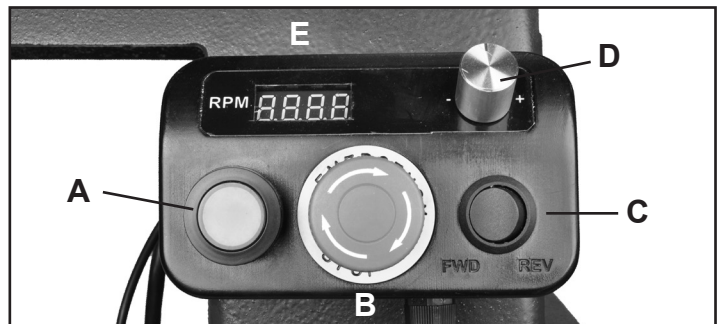

FIG. 6
The lathe features a corded Switch Box (FIG. 6) with magnets on its back that allow it to be positioned on the face of the headstock or anywhere along the lathe's bed! Wherever it is most comfortable for the turner to quickly access the controls to regulate turning speeds, direction of spindle rotation or to stop the lathe.
1. **'ON' BUTTON:** (FIG. 6, A) Push the green Button so that it turns the lathe ON. Push the red 'mushroom' Button (B) to turn the lathe OFF.
2. **'STOP' BUTTON:** (B) Push in the extended red Button to stop the lathe. To restart the lathe, rotate the OFF button clockwise and it will pop out to reset itself. Then press the 'ON' button to restart the lathe.
3. **FORWARD / REVERSE SWITCH:** (FIG. 6, C) This selector switch will change the direction that the spindle turns - counter-clockwise (forward) or clockwise (reverse).
4. **SPEED RPM KNOB:** (FIG. 6, D) This knob controls the desired spindle revolutions per minute (RPM). The lathe has three speed ranges - 250-850, 430-1450, 950-3200 RPM. Spindle speeds are shown on the LCD Display (E).
5. **SPEED RPM DIGITAL READOUT:** (E) Displays the spindle's RPM as set by the RPM Knob (D). **NOTE:** Speeds displayed may vary + - 5% due to difference in input voltage.